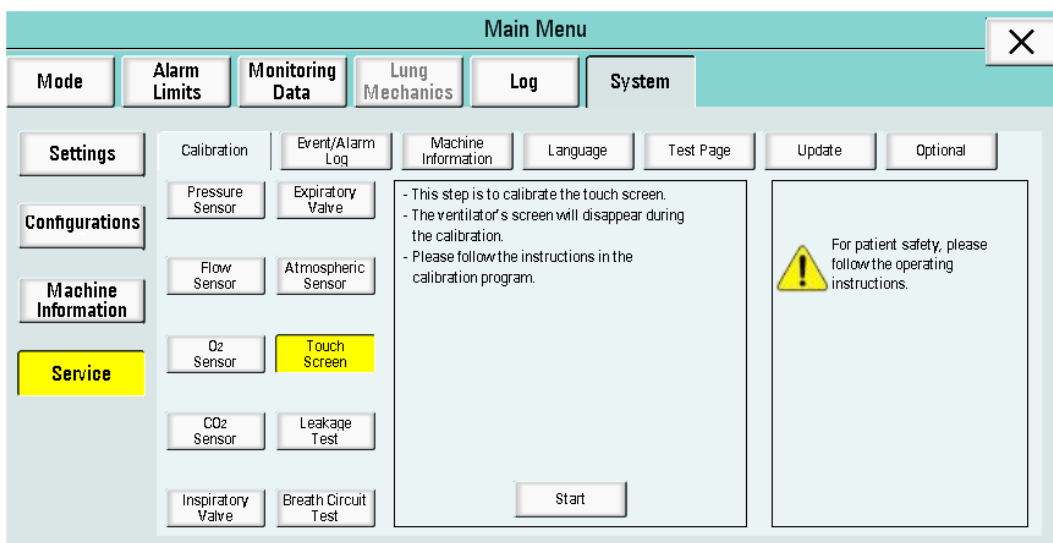

Figure 6-69
(8) **Touch Screen Calibration:** Click “Touch screen” to enter the calibration interface. A message is displayed: “This step is to calibrate the touch screen. The ventilator’s screen will disappear during the calibration. Please follow the instruction in the calibration program.” as shown in Figure 6-69.